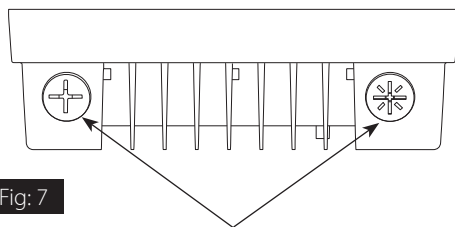

Fig. 7
1. Remove **Selector Switch Caps** by turning counterclockwise using a flat head screwdriver (*Fig. 7*).